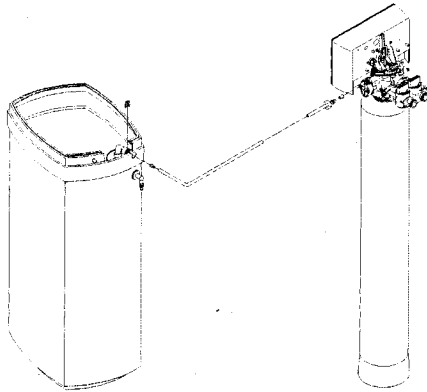

Figure 7
- Slide the brass compression nut over the end of the brine line, followed by the ferrule and tube support. Attach the brine line to the brass fitting on the right side of the valve (see figure 7).
- Insert a tube support into the other end of the brine line and push the brine line into the brine safety float elbow. Use a locking clip to secure the connection (see figure 7).
- Run a 1/2 inch brine overflow line from the overflow elbow on the side of the brink tank to an approved air gap device and suitable floor drain. Use a drain clip to secure the connection (see figure 7).